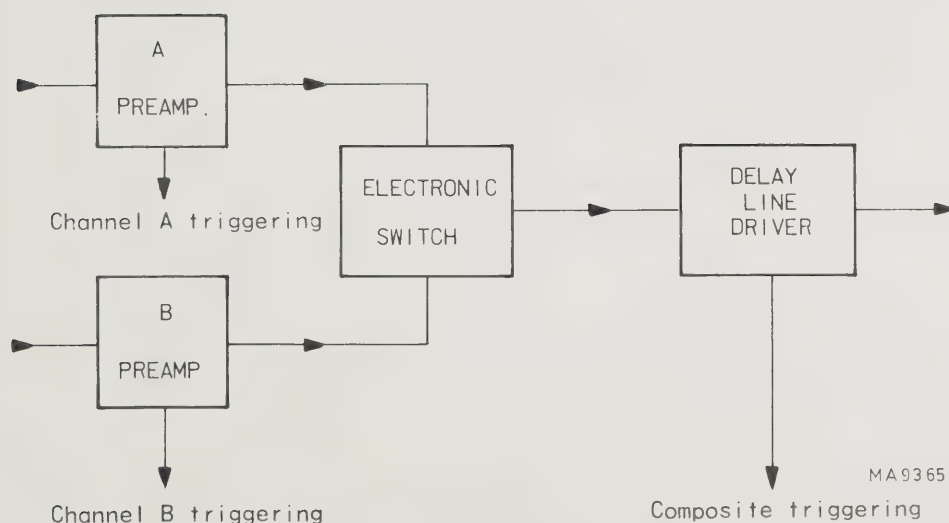

Fig. 2.5. Block diagram of composite trigger circuit
*Note:* When composite triggering is employed in dual channel operation (chopped or alternate), and there is only one signal applied (to A or B input), stable triggering cannot be obtained. This is only normal since the trigger source is also switched from A to B (see Fig. 2.5).